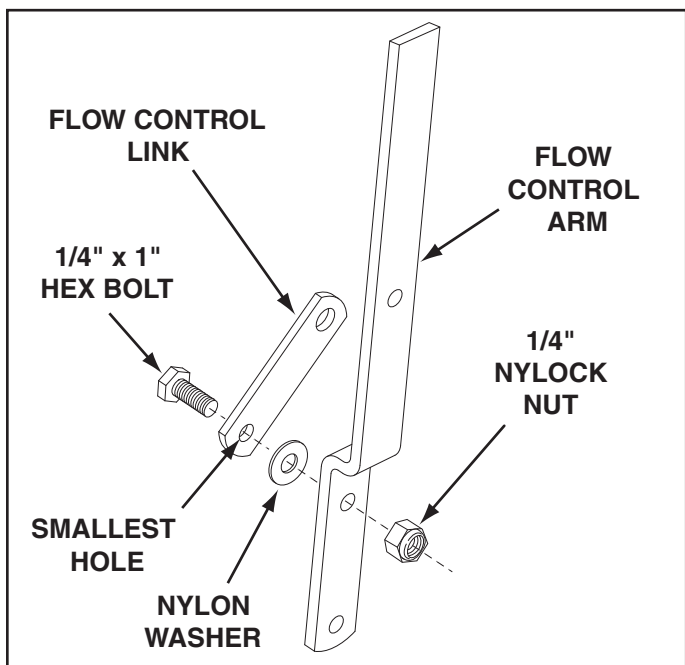

FIGURE 6
14. Assemble the flow control link (end with small hole) to the flow control arm using a 1/4" x 1" hex bolt, a nylon washer and a 1/4" nylock nut as shown in figure 6. **Tighten carefully.** The flow control link should not be loose but should pivot with no more than slight resistance.